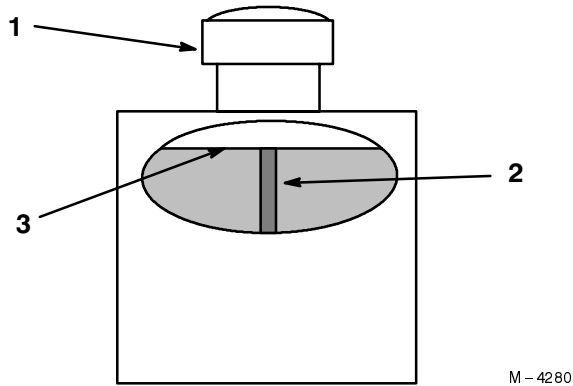

Figure 34
2. Clean area around filler neck of hydraulic tank (Fig. 34).
3. Remove cap from filler neck. Look inside to check if there is fluid in the reservoir. (Fig. 34).
Note: Fluid level should be to the top of the baffle when fluid is warm (Fig. 34).